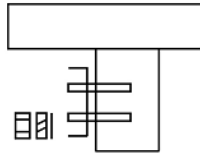

Fig. 2
2. Insert the mounting bolts into the cement wall. Hang the mounting plate on it and then fixed with screws. (Fig. 2)